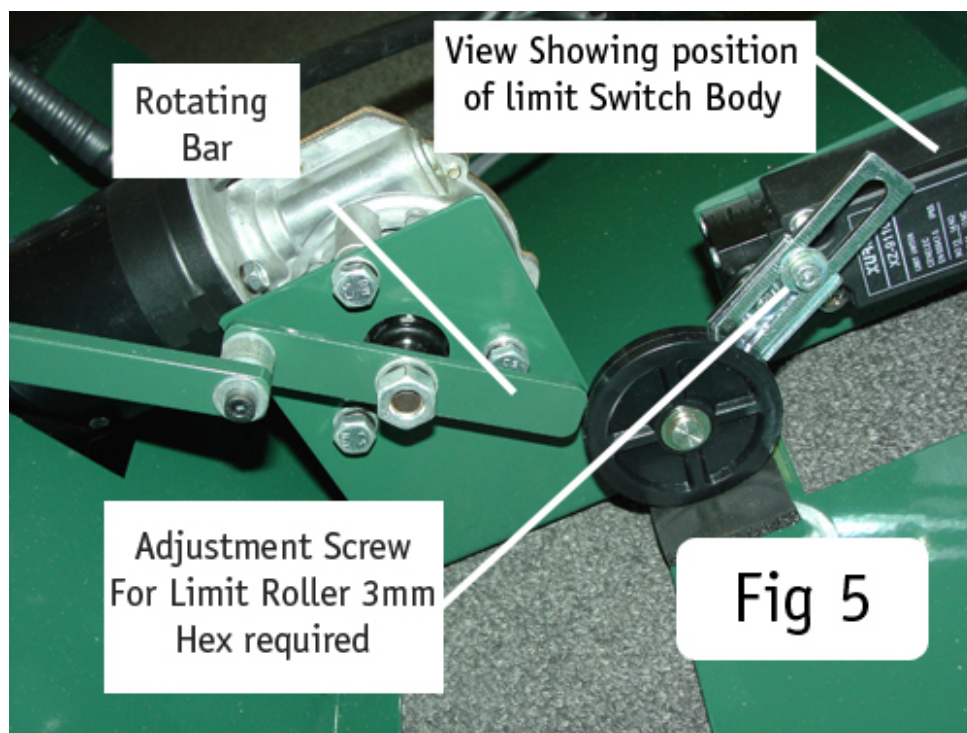

Figure 5: View showing setup of limit switch
- Verify that the rotating bar is properly tripping the limit roller (each end of the rotating bar should trip the limit switch roller). If not, it needs adjusting. (See Figures 5 and 6.)